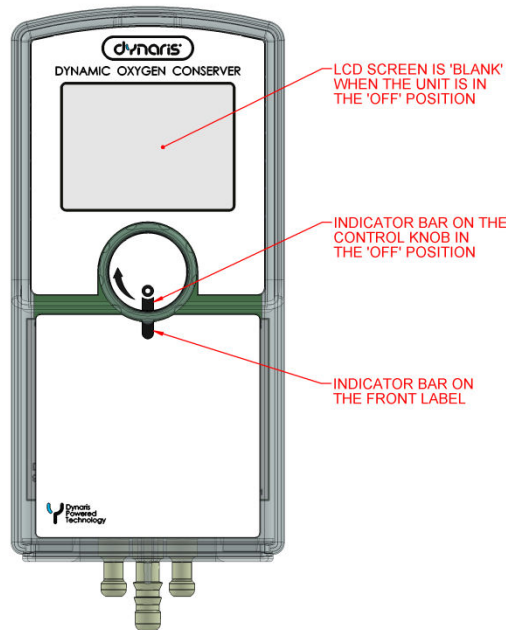

Figure 6: Apogee device in the 'OFF' Position
Once the cannula is properly placed and the regulator tubing are properly attached to the device, turn the device “ON” by rotating the knob (clockwise) from the “OFF” position (see Figure 6) to the selected regulated flow on the front of the device. Check the display to verify battery level, L or R nasal activation ICONs. If user sees no activation on either nasal passage notify your health care provide or contact Dynaris for assistance.
- Ensure the Apogee device is off (see Figure 6).